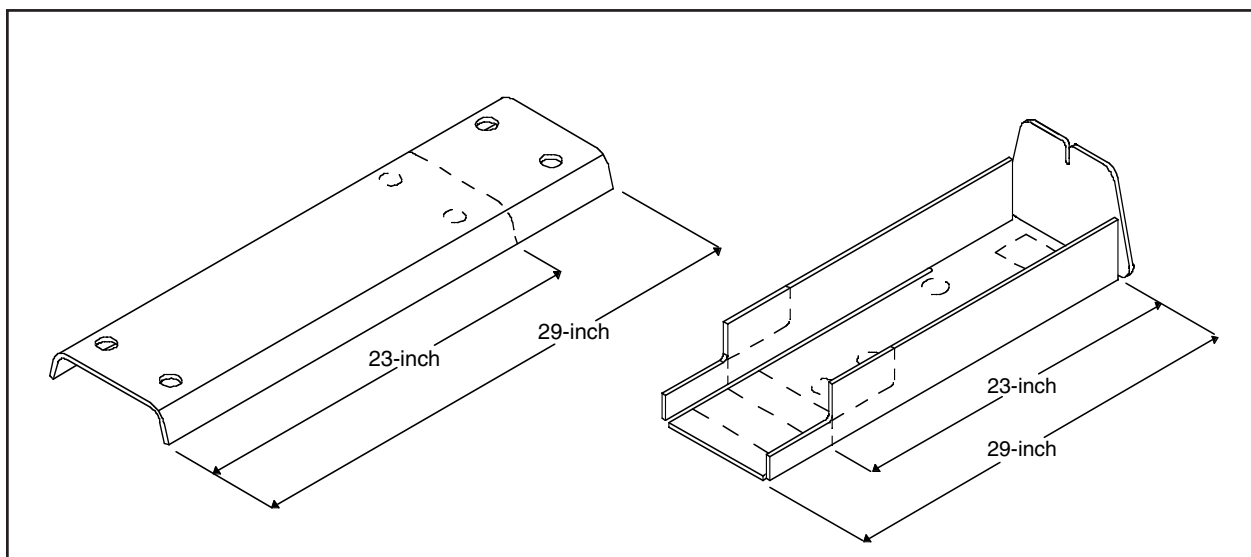

Figure 1. Lid and Body Insulation Sheets
1. Remove the necessary punch-out cable-feed pieces from the insulation pad depending on the type of enclosure (EH5700 or EH5700L series) being used. Remove the vent area pieces for (-1, -2, -3) ventilation through the enclosure. (See Figures 1 and 2.)